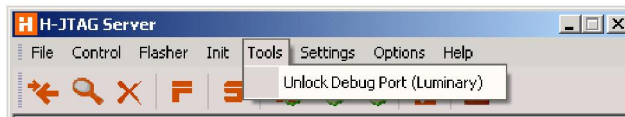

Fig 2-12 Tools Menu
- Tools Menu, as shown in Fig2-12.